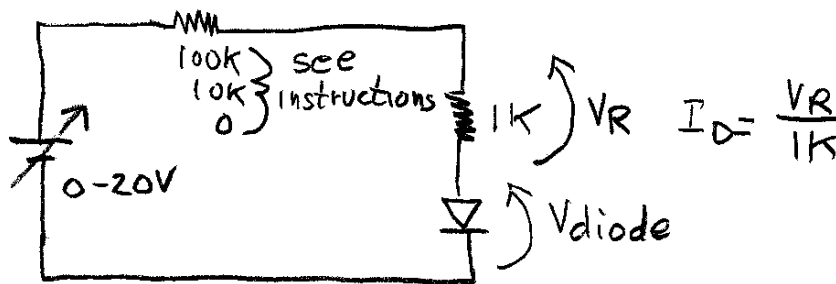

Figure 3: Measuring diode current versus voltage
- 2.1 Build the circuit in Figure 3. The 1K resistor is used to measure the current through the diode and the different values of R1 are used to broaden the adjustment range of the power supply so that setting the various diode currents in later steps is easier.